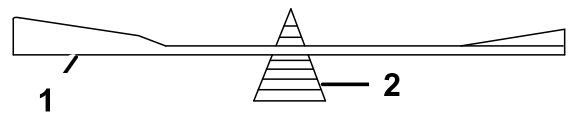

Figure 100
2. Check the balance of the blade by putting it on a blade balancer (Figure 100).